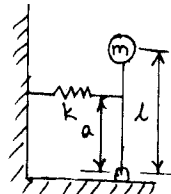

Fig Q2(b)
b. Find the time period of small vibrations of an inverted pendulum and spring mass system shown in Fig Q2(b). The pendulum is vertical in the equilibrium position. (10 Marks)